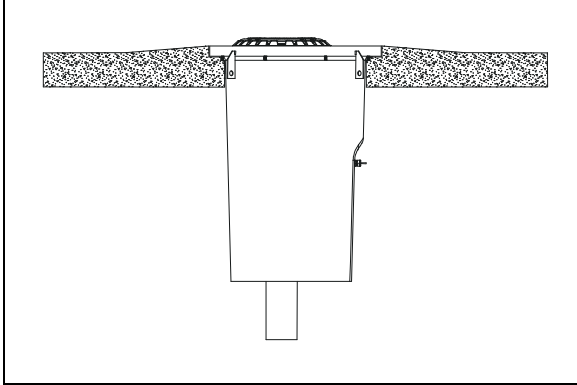

Figure 7
24. It is recommended that the paved contours around POMEKO covers be adequately sloped to direct water flow away from the cover and direct water runoff from adjacent areas away from POMEKO covers. 1" minimum slope is recommended. (See Figure 7.)